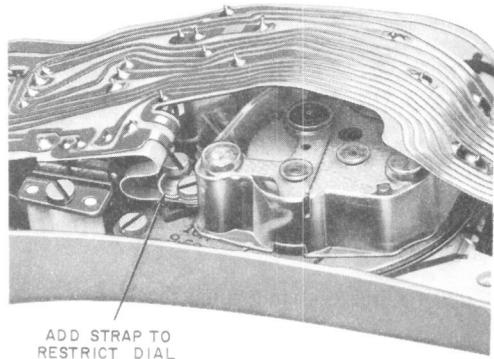

Fig. 8—Restricting Dial of 220-Type Hand Telephone Set
- (1) Remove handset cord from handset using KS-21107 releaser or equivalent.
- (2) Remove cover or number card retainer located just above dial using KS-21107 releaser or equivalent.
- (3) Remove light seal plate and the 2 screws located under retainer. This will release the cover from the handset.
- (4) Place a strap between the pulsing contacts as shown in Fig. 8. The dial will remain in the handset.
- (5) Reassemble handset and reconnect handset cord.
- (6) Note this modification on the option sticker.